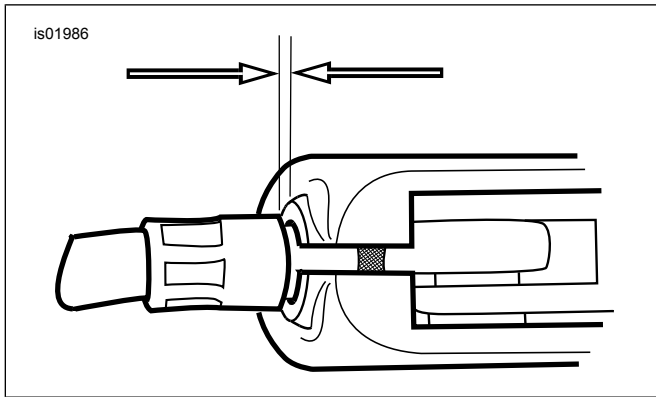

Figure 2. 1/16-1/8 inch (1.6-3.2 mm) Clutch Cable Free Play
- e. See Figure 2. Turn cable adjuster away from jam nut until slack is eliminated at hand lever. Pull clutch cable ferrule away from clutch lever bracket to check free play. Turn cable adjuster as necessary to obtain 1/16-1/8 inch (1.6-3.2 mm) free play between end of cable ferrule and clutch lever bracket.